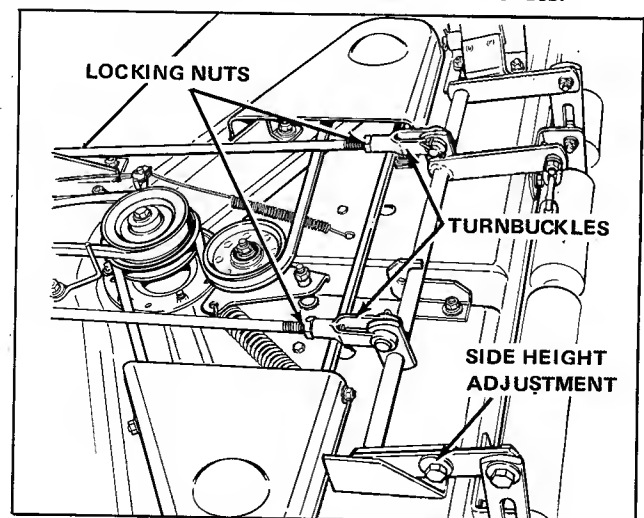

Figure 44. Leveling 42" Mower
5. If adjustment is needed, remove the pins holding the bail assembly turnbuckles to the height adjustment arm (see figure 44). Loosen jam nuts on turnbuckles.
2. If the difference between the two measurements is greater than 1/8 inch (3 mm), loosen the capscrew in the slotted hole on the left rocker arm (see figure 44).